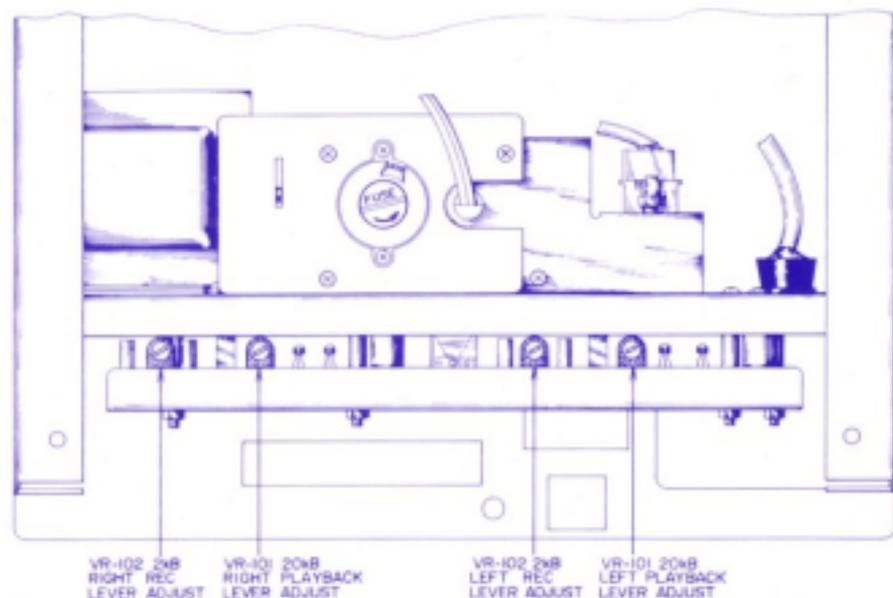

Fig. 7-1
- Adjust the VR 101 (semi-fixed resistor 20 K-Ω, Fig. 7-1) of the pre-amplifier so that Line Output Voltage indicates 1.228 V (± 4 dbm).